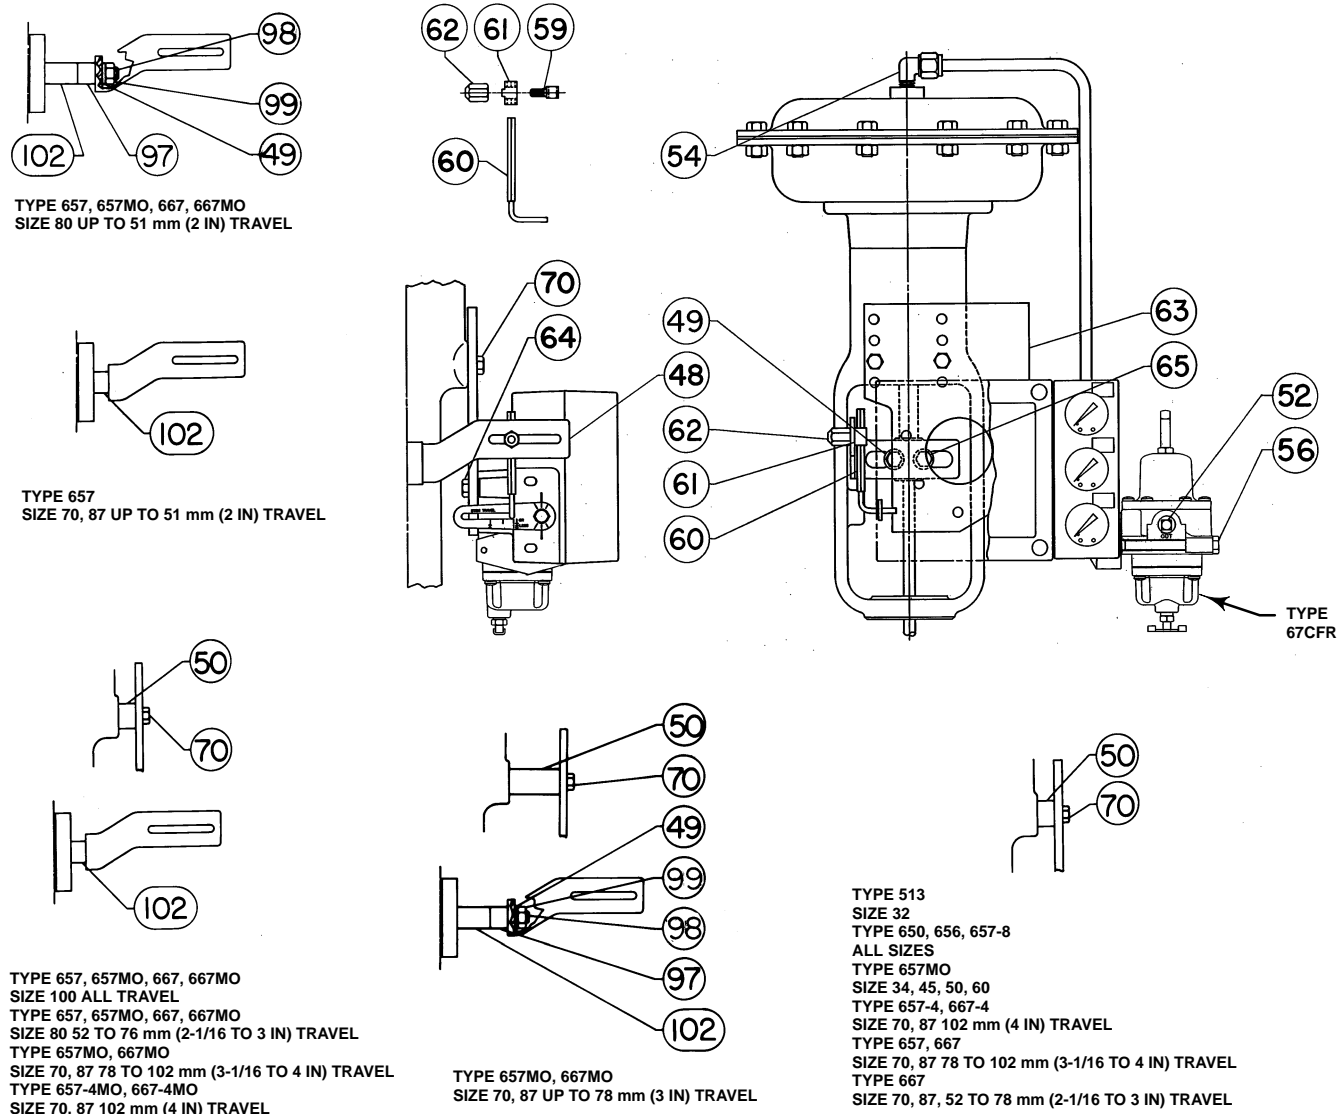

Figure 3. Mounting Assembly
Key numbers used in this procedure are shown in figure 3 except where indicated.
1. Figure 3 shows the various mounting parts required for mounting on Fisher actuators. Mounting parts for Fisher actuators that require spacers have
2. As shown in figures 3 and 4, attach the connector arm (key 48) to the stem connector so that the connector arm extends through the yoke legs on the side of the lower mounting boss.